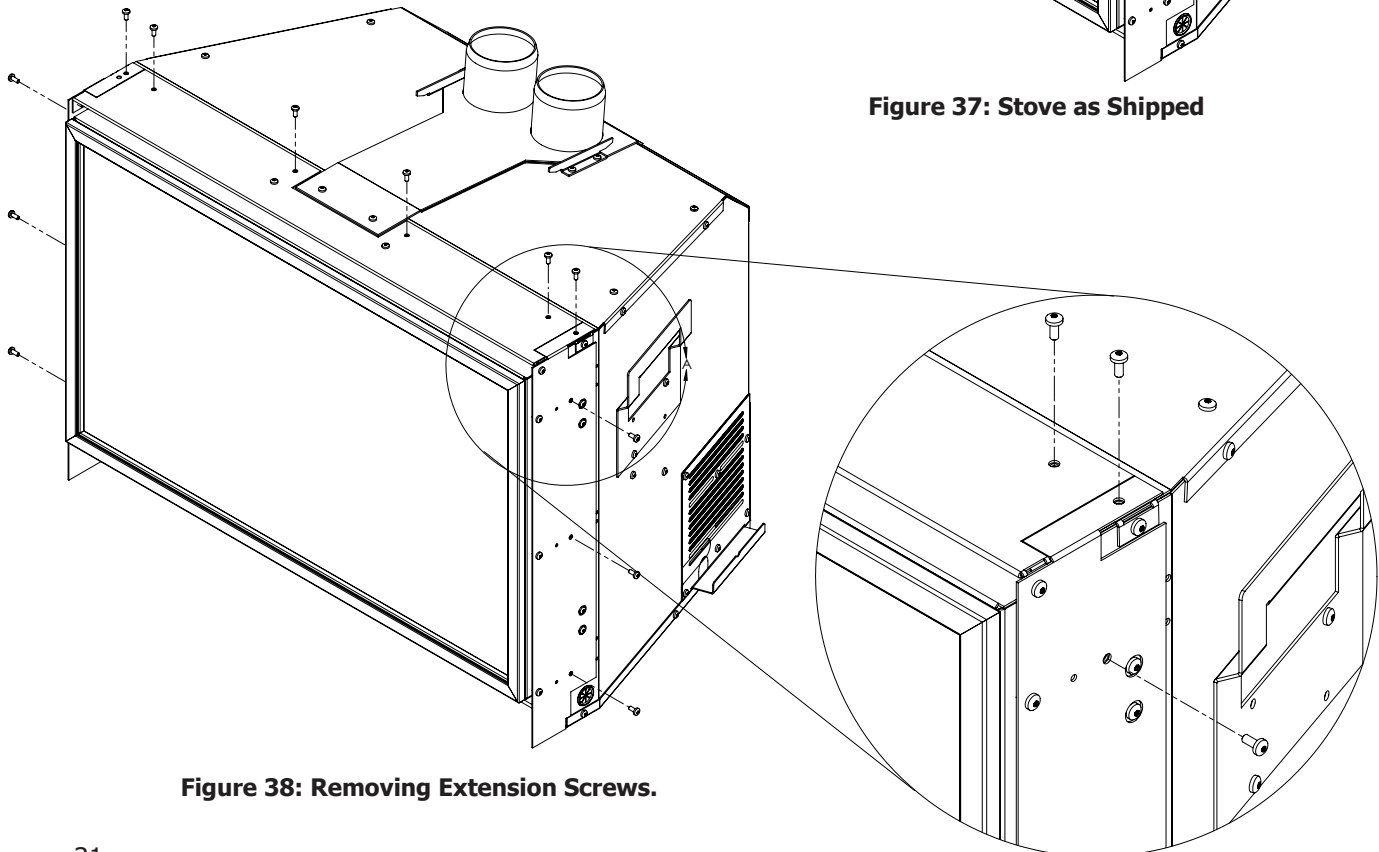

Figure 38: Removing Extension Screws.
1. Using a T20 screwdriver, remove the four (4) screws that secure the Top Extension to the Cabinet (see Figure 38).
2. Remove the four (4) screws on each Side Extension (see Figure 38).